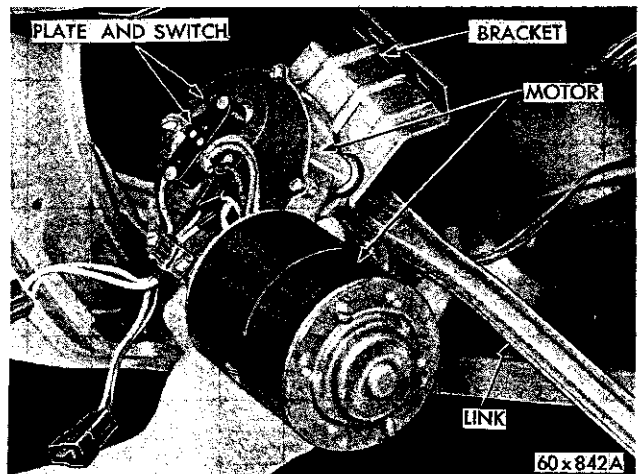

Fig. 120—Removing the Windshield Wiper Motor and Link Assembly (Typical)
- (1) Remove the glove compartment door.
- (2) Remove the glove compartment.
- (3) Remove the nuts attaching the wiper motor bracket to the cowl panel and to the instrument panel brace.
- (4) Disconnect the wires at the wiper motor.
- (5) Disconnect the links at the pivot cranks. The clips are removed by lifting the top tab and sliding it sideways out of engagement with the groove in the pivot crank pin.
- (6) Remove the spacing washer and remove the link from the pivot crank.
- (7) Slide the complete wiper with the links far enough towards the left so that the right hand link will clear the glove compartment opening in the instrument panel and remove assembly, as shown in Figure 120. Use care so as not to bend the links.